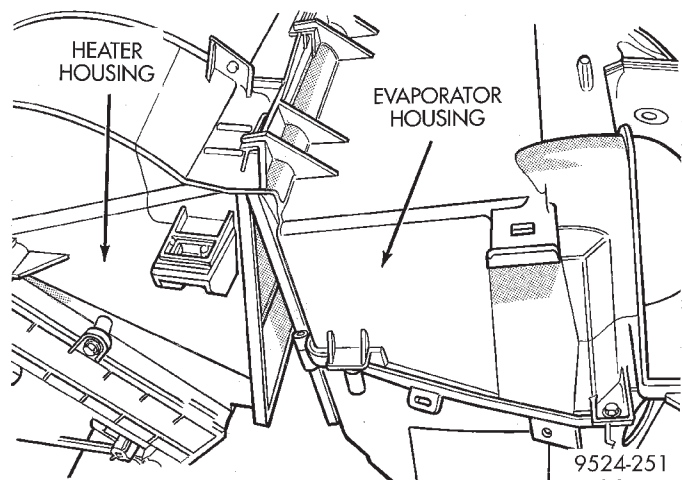
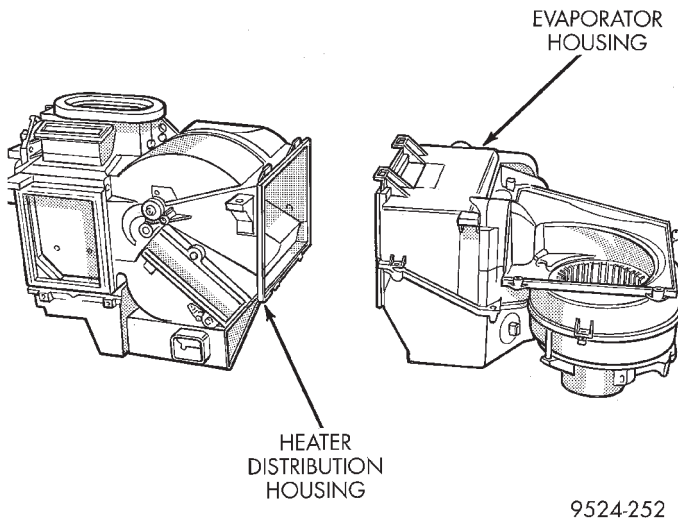
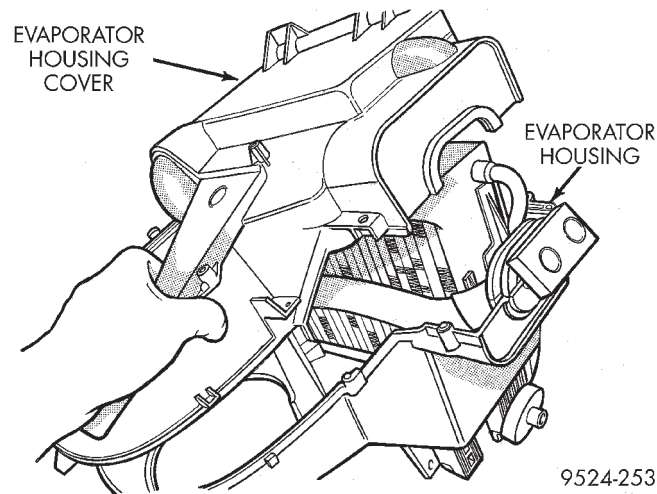

Fig. 37 Separate Housings
Fig. 38 Housings
Fig. 39 Evaporator Housing Upper Cover
- (6) Separate evaporator housing from heater/distribution housing (Fig. 37) and (Fig. 38).
- (7) Remove seal around evaporator tube inlet.
- (8) Remove evaporator housing upper cover (Fig. 39).